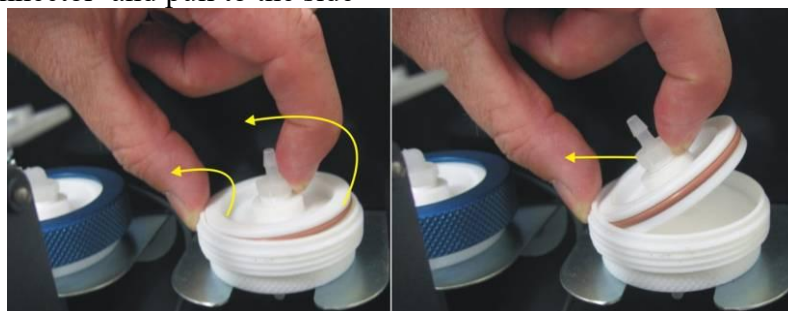

Figure 23 Removing plunger
2. Slide open (Figure 23) to access the particulate filter (located in front right hand corner)